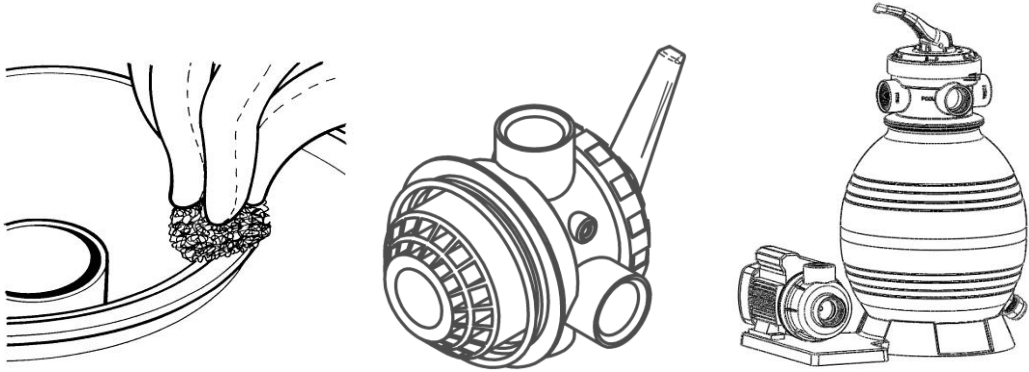

fig.5
5. Remove the funnel and clean the edge of the container opening carefully sand residues. To facilitate the start-up, it is recommended to fill the sand filter tank to $\frac{3}{4}$ with water. Then mount the 4-way valve and the filter gasket (O-ring, Fig. 5). The connection is made with a clamping ring. The clamping ring is screwed to the clamping ring screw and clamping ring nut.